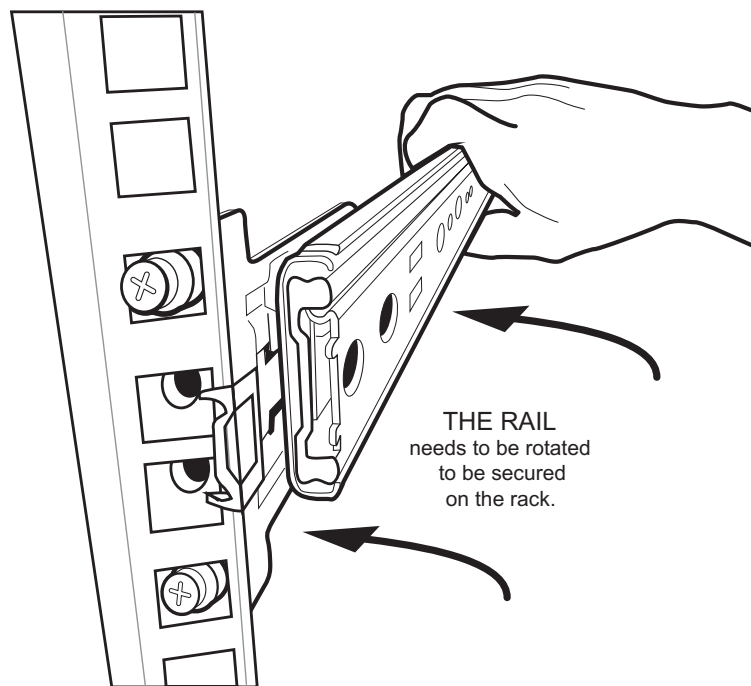

Figure 2.1 Securing the Slider Rail to the Front of the Equipment Rack
- 1a. Attach the front end of the slider rail to the front edge of the equipment rack. See figure 2.1 on page 12.